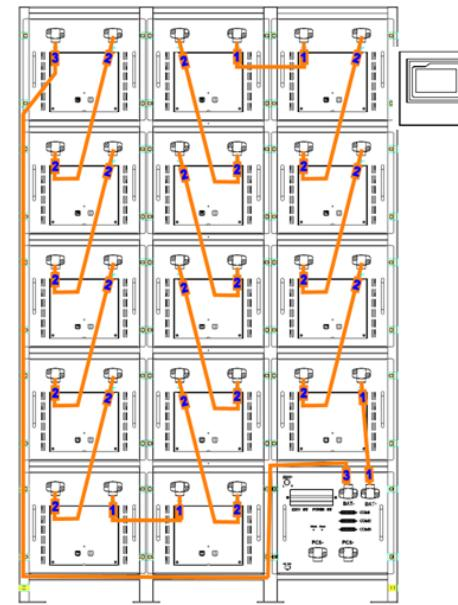

Figure 6-4 Battery cluster DC cable wiring diagram (picture is for reference only)
- 2). According to the wiring position of Figure 6-4, connect the No. 2 series DC cable to each cluster first, then connect the No. 1 serial DC cable, then connect the No. 4 serial DC cable, and finally connect the No. 3 cable.